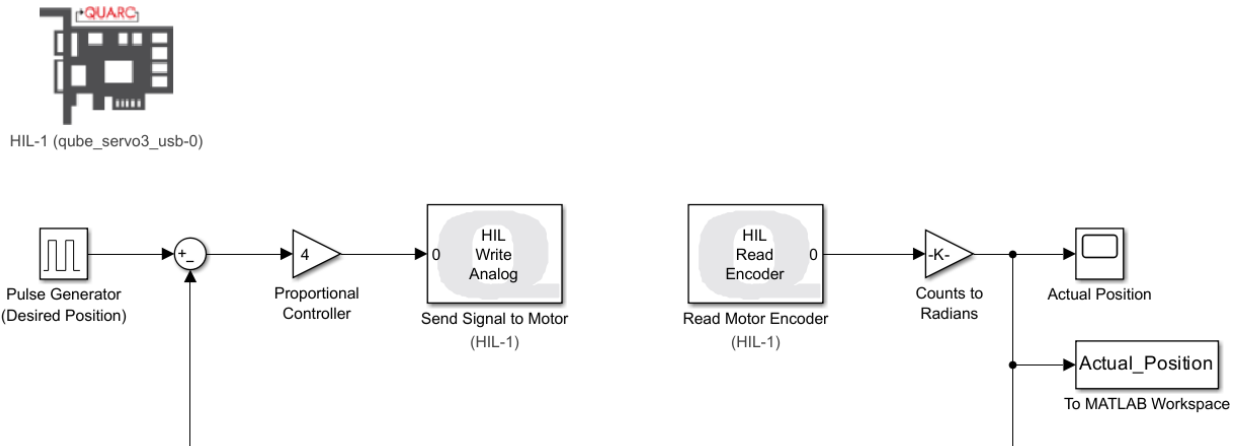

Figure 4: Target Simulink Model for Experiment 1.
- iv) When you are done building your model by following Figure 1, it should look like the target model shown in Figure 4. **STOP and Note:** Remember from Lab 1 that the output of the *Read Encoder* block is in *Counts*. You must convert *Counts to Radians* by using a *Gain* block at the output of the *Read Encoder* block as shown in Figure 4. Failure to do so may lead to damaging your motor.
- vi) Open the *Gain* block representing the *Proportional Controller* (see Figure 4) and set its *Gain* to 4, i.e., $K = 4$. This gain value will lead to an under-damped system (second-order) which is what we want. This *Gain* block is your controller for this lab, i.e., we are using a *proportional* controller.
- vii) Open the *Gain* block at the output of the *Read Encoder* block which is meant to convert *Counts to Radians* (see Figure 4). Set its gain so that it receives *Counts* at its input and outputs position in *Radians* (Hint: You have already done this in Lab 1; Double-check with the TAs if you are not sure).